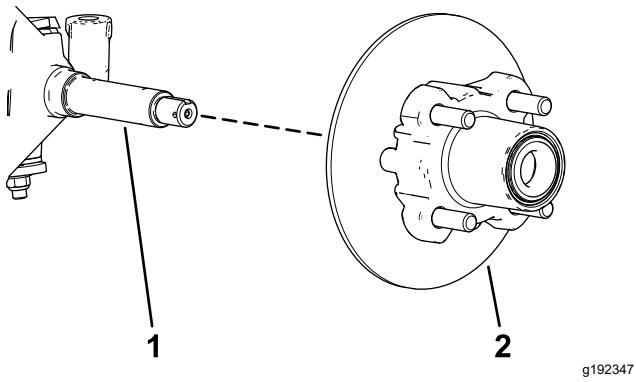

**Figure 34**
4. Remove the dust cap from the hub (Figure 34).
- 5. Remove the cotter pin and nut retainer from the spindle and spindle nut (Figure 34).
- 6. Remove the spindle nut from the spindle, and separate the hub and rotor assembly from the spindle (Figure 34 and Figure 35).